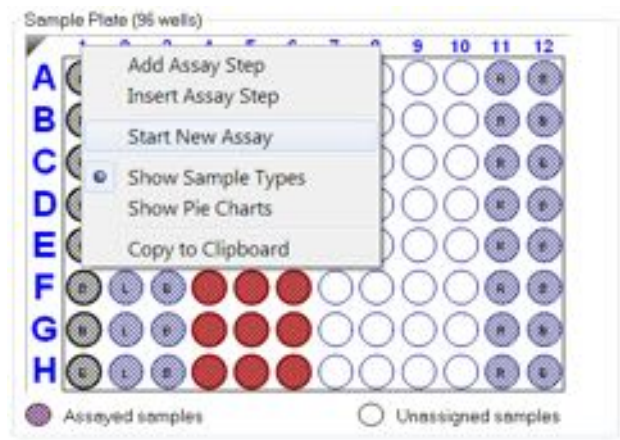

Figure 9-38: Start New Assay
2. Right-click to view the shortcut menu and select **Start New Assay** (see Figure 9-38).